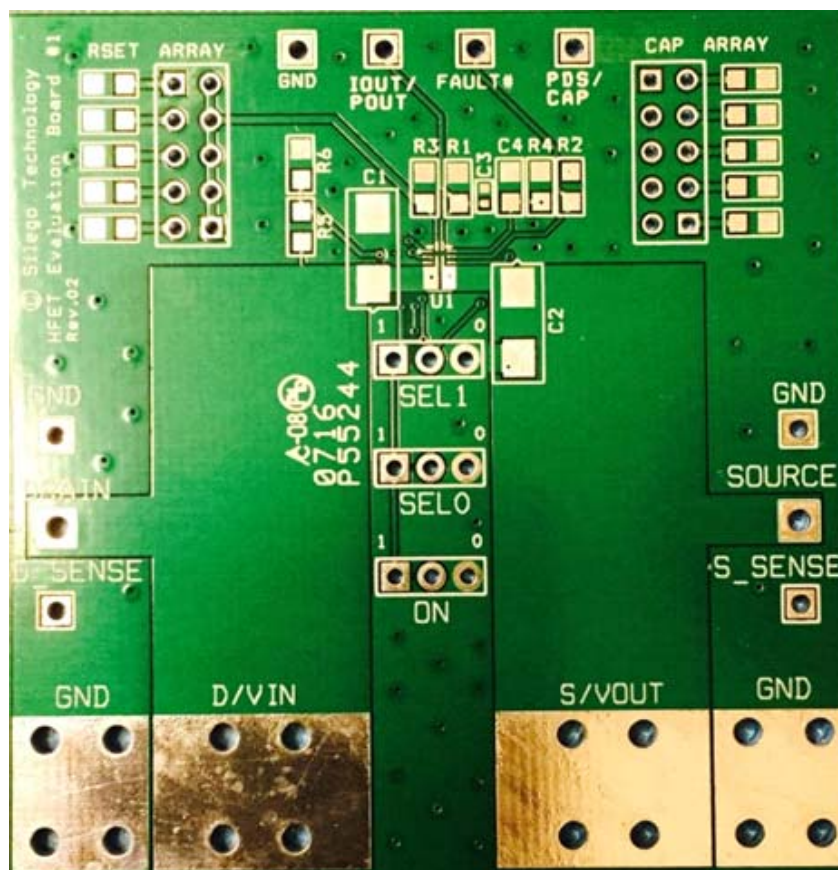

Figure 45. SLG59H1020V Evaluation Board
1. Since the VIN and VOUT pins dissipate most of the heat generated during high-load current operation, it is highly recommended to make power traces as short, direct, and wide as possible. A good practice is to make power traces with absolute minimum widths of 15 mils (0.381 mm) per Ampere. A representative layout, shown in Figure 45, illustrates proper techniques for heat to transfer as efficiently as possible out of the device;
A HFET1 Evaluation Board for SLG59H1020V is designed according to the statements above and is illustrated on Figure 45. Please note that evaluation board has D_Sense and S_Sense pads. They cannot carry high currents and dedicated only for RDS_{ON} evaluation.